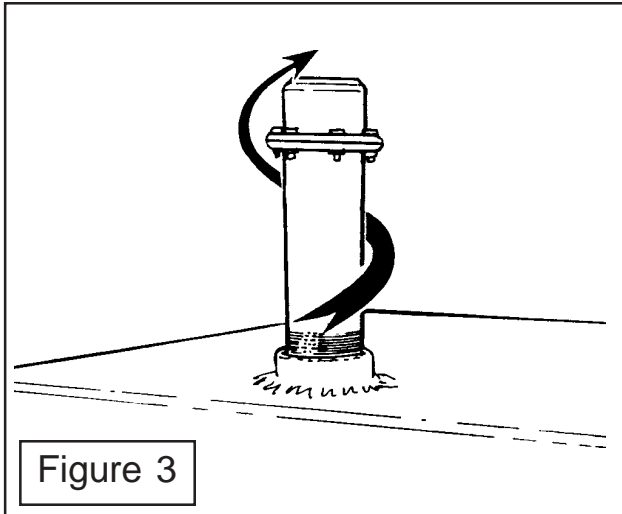

Figure 3
1. Remove the Filler Cap Weldment. It will be easier to unscrew the filler neck weldment to fill the hydraulic tank (See Figure 3).